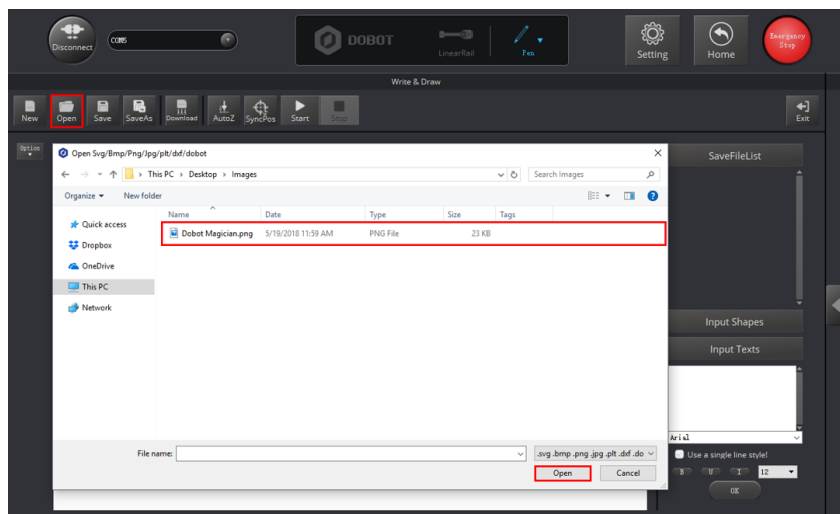
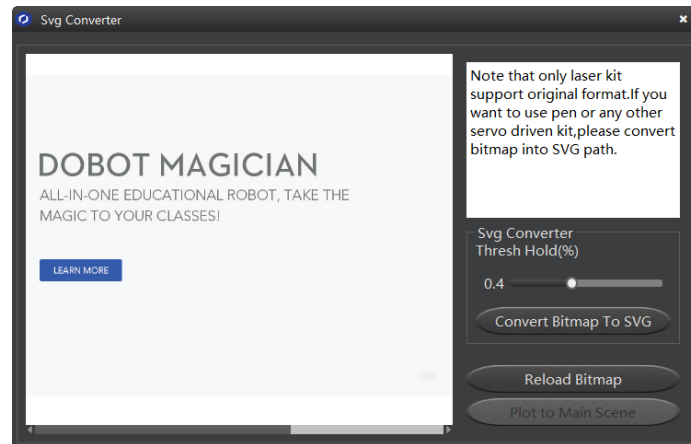

Figure 5.74 Import an image file
Figure 5.75 Convert Bitmap to SVG
- Click **Open** to import an image file such as BMP, JPEG, or PNG to convert this image to its corresponding SVG file that the DobotStudio supports, as shown in Figure 5.74. Once this image is imported, the **SVG Converter** dialog box is displayed, as shown in Figure 5.75. In this dialog box, drag the slider to set the black and white threshold, and click **Convert Bitmap To SVG** to perform the conversion, and then click **Plot to Main Scene** to display the converted SVG file on the annular area of the **Write & Draw** page.